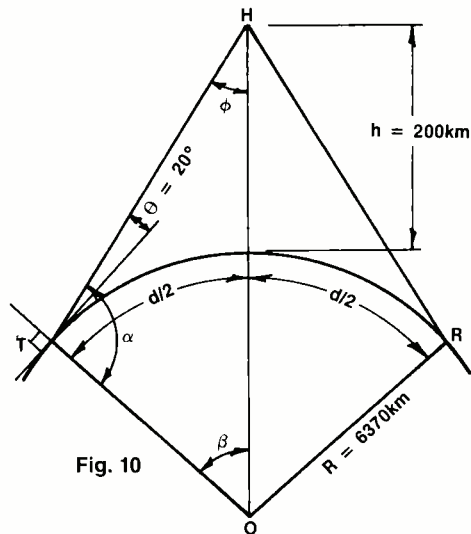

Fig. 10
The virtual height is, however, used in calculating the transmission path between two stations. In Fig. 10, the transmission path between transmitter (T) and receiver (R), as measured along the surface of the Earth, is shown as d . θ is the angle made by the antenna main beam at point T, h is the virtual height, and R the radius of the Earth.